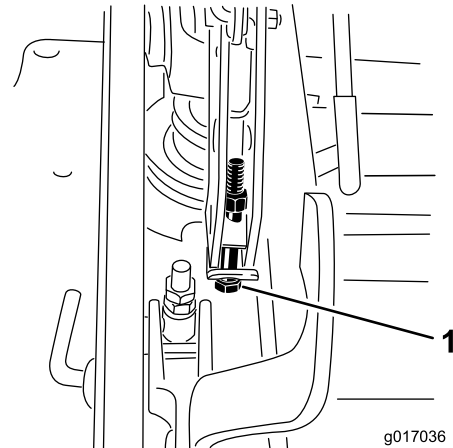

Figure 93
13. If the deck is too low, tighten the single point adjustment bolt by rotating it clockwise. If the deck is too high, loosen the single point adjustment bolt by rotating it counterclockwise (Figure 93).
14. Tighten the 2 bolts at the bottom of the height-of-cut plate (Figure 93).